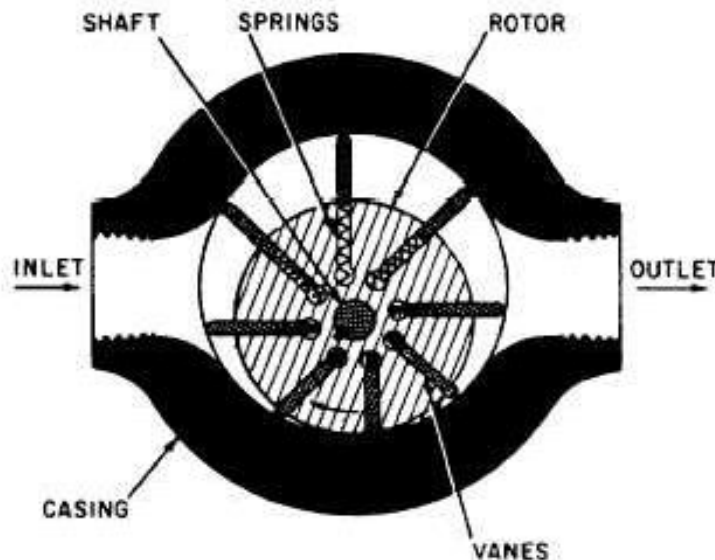

Fig.3.19 - Layout of general hydraulic system
- ▶ Figure 3.19 shows an unbalanced vane motor consisting of a circular chamber in which there is an eccentric rotor carrying several spring or pressure-loaded vanes. Because the fluid flowing through the inlet port finds more area of vanes exposed in the upper half of the motor, it exerts more force on the upper vanes, and the rotor turns counterclockwise. Close tolerances are maintained between the vanes and ring to provide high efficiencies.